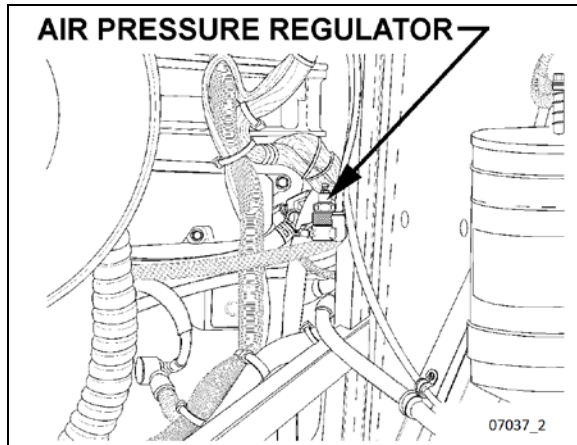

FIGURE 14: AIR PRESSURE REGULATOR (TYPICAL)
24. Adjust the retarder pressure to  $80 \pm 3$  psi with the air pressure regulator. For more information refer to Section 12, "BRAKE AND AIR SYSTEM", under heading "AIR PRESSURE REGULATOR". The air pressure regulator is located at back of engine compartment, on R.H. side (Figure 14) or in the R.H. side rear service compartment.